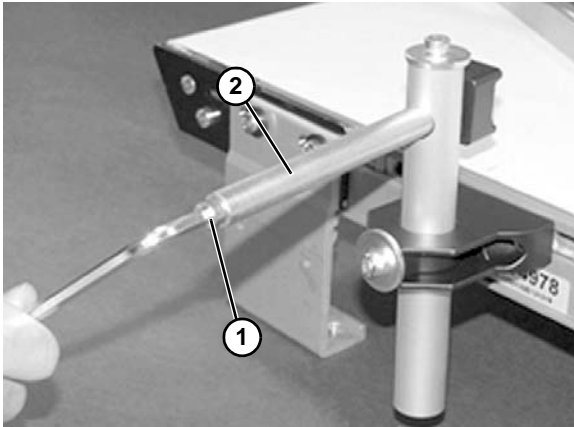
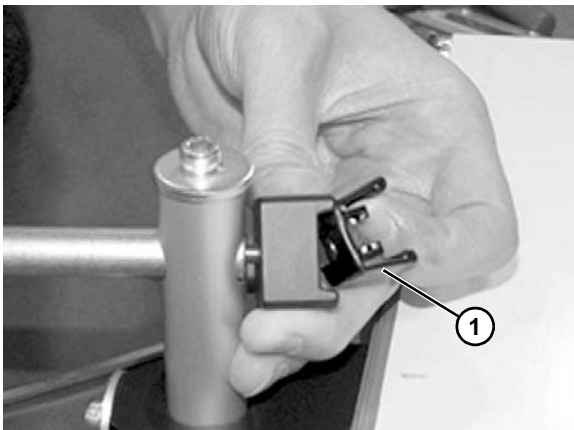
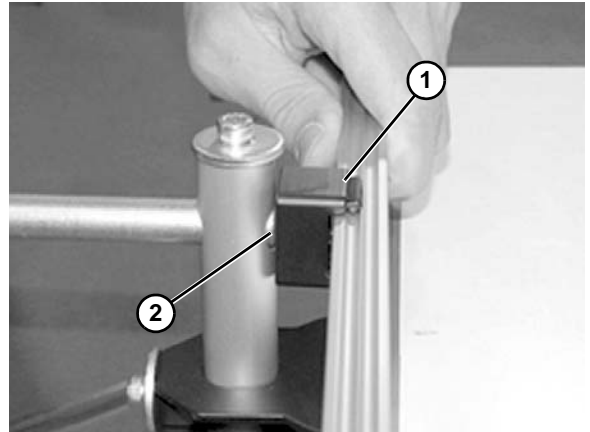

Figure 23
Figure 24
Figure 26
3. Loosen screw (**Figure 23, item 1**) on end of shaft (**Figure 23, item 2**) to remove clip (**Figure 24, item 1**).
5. Reassemble clip (**Figure 26, item 1**) and attach to shaft (**Figure 26, item 2**). Tighten screw (**Figure 23, item 1**) on end of shaft.